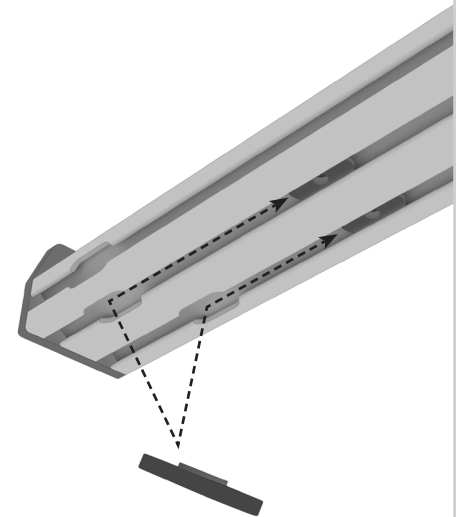

FIG 7
3.2 Insert T-Nuts: Slide (2) 1/4-20 **T-Nuts** into the cutouts of the **Crossbar** (FIG 7).